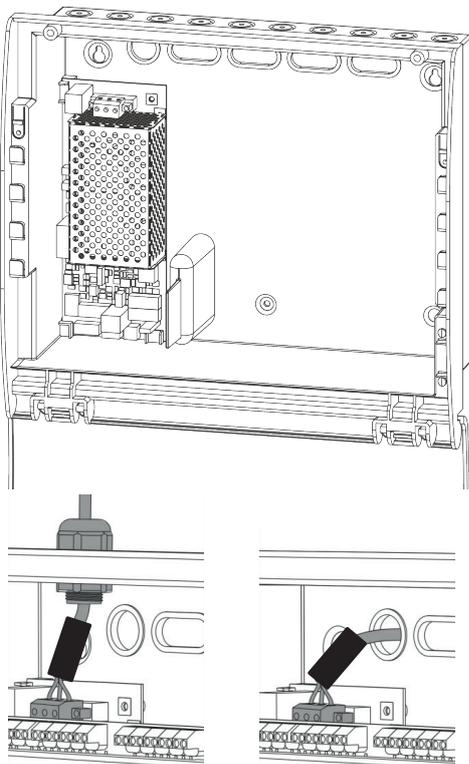

Figure 17: Mains Supply Connection to PSE
- Before connecting the fused spur to the PSE slide the ferrite core (supplied with the panel) over the cable as shown in figure 17.
- Connect the fused spur to the input marked MAINS on the PSE, observing correct wiring regulations (see Figure 17).